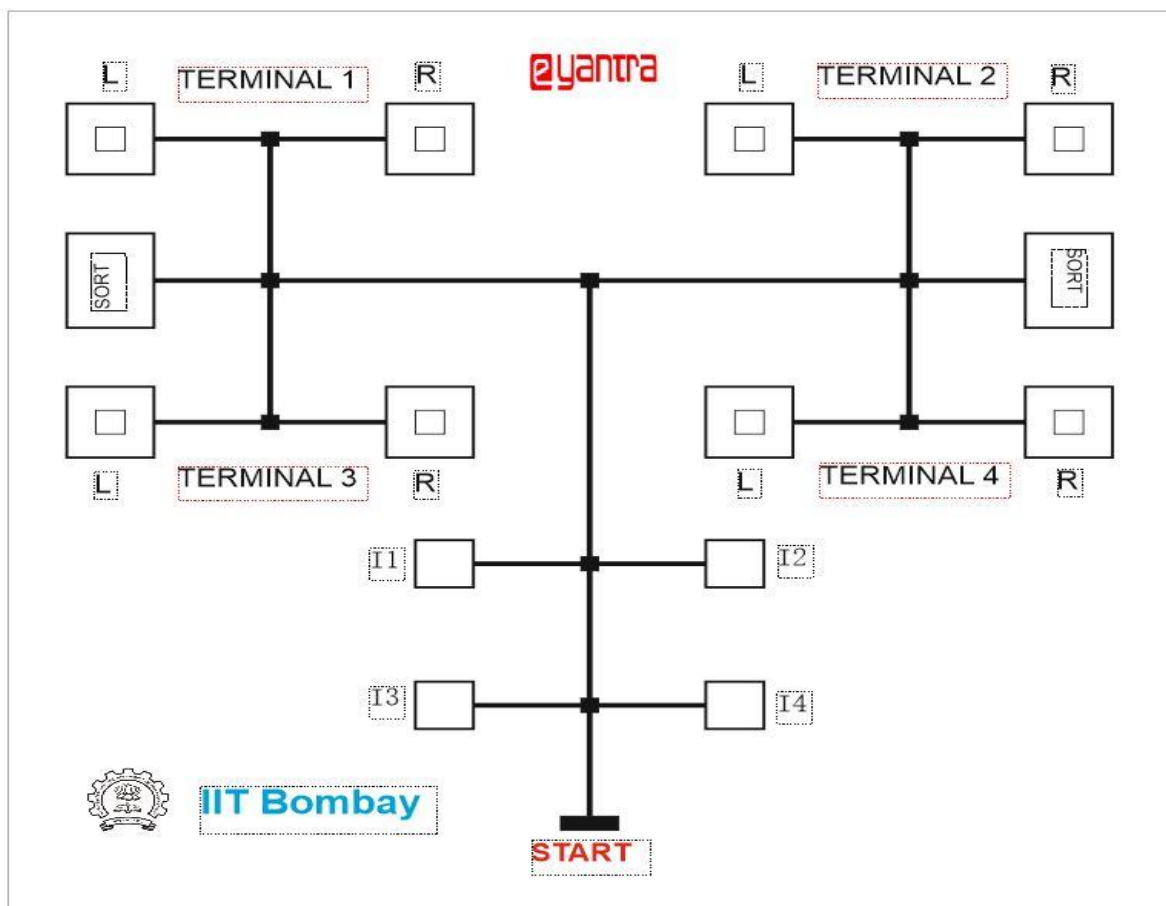
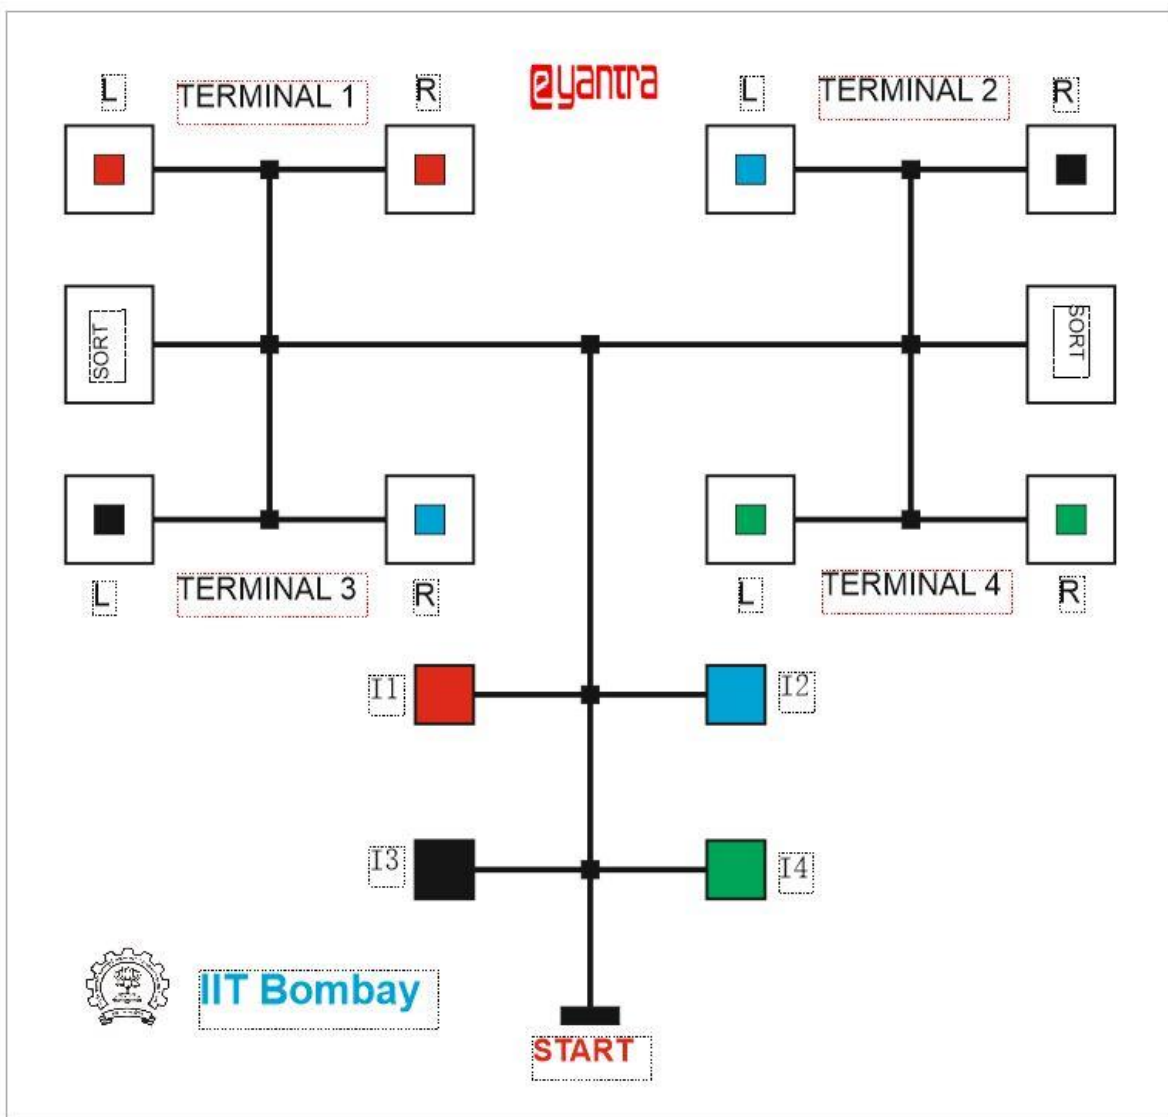

Figure 1: Arena
Figure 2: Example of a Complete Arena
1. The robot starts from **START** position of the arena representing an airport (Refer to Figure 1).
- There are four terminals, **Terminal 1 ... Terminal 4** (referred to as **T1, T2, T3, and T4** in the rest of this rulebook) in the airport where cargo is placed on arrival to the airport. Each terminal has two deposition zones **Left (L)** and **Right (R)**. We use **T1-L** to represent the left deposition zone in T1 and **T1-R** to represent the right deposition zone in T1. Similar notation is used for the other terminals.
- Thermocol blocks of four colors **Red (R)**, **Blue (B)**, **Green (G)** or **Black (Bk)** are used to represent different **types** of cargoes.
- Each deposition zone can contain: (i) **No package** – when the deposit zone is empty or (ii) **Valid package** – when a package of one of the colors – Red (R), Blue (B), Green (G), or Black (Bk) – is at the deposition zone.
- There are four **indicator spots** labelled **I1, I2, I3, and I4** as shown in Figure 1. Each indicator spot has an associated terminal: I1 for T1, I2 for T2, etc. At the time of the competition, blocks of colors R, B, G, or Bk will be placed on these indicator spots, which are used to assign a color to the respective terminal. For example, if a red block is placed at I1 (Refer to Figure 2), then both deposition zones of T1, **T1-L** and **T1-R**, are designated to contain red packages; only packages of that color should be present in that terminal.
The arena for this theme is a simplified abstraction of an airport. There are 4 terminals marked on the arena (referred to as T1... T4) with each terminal having two deposition zones: Left (L) and Right (R). Each terminal has a designated color which is assigned by placing an **indicator block** on the indicator spots, I1... I4. With reference to Figure 2, note that the designated colors for T1... T4 are as follows: T1 – Red; T2 – Blue; T3 – Black; T4 – Green. Packages of different types represented by blocks of colors Red, Blue, Green or Black are placed on arrival at the deposition zones. In the example shown in Figure 2, while T1 and T4 contain the blocks of their designated colors, T2-R contains a black block and T3-R contains a blue block which have to be sorted; in this case, the black block has to be placed in T3 and the blue block in T2. The black line on the arena is used for the robot to navigate its path to complete the task.
The complete arena with the above mentioned details for this theme is depicted in Figure 2.